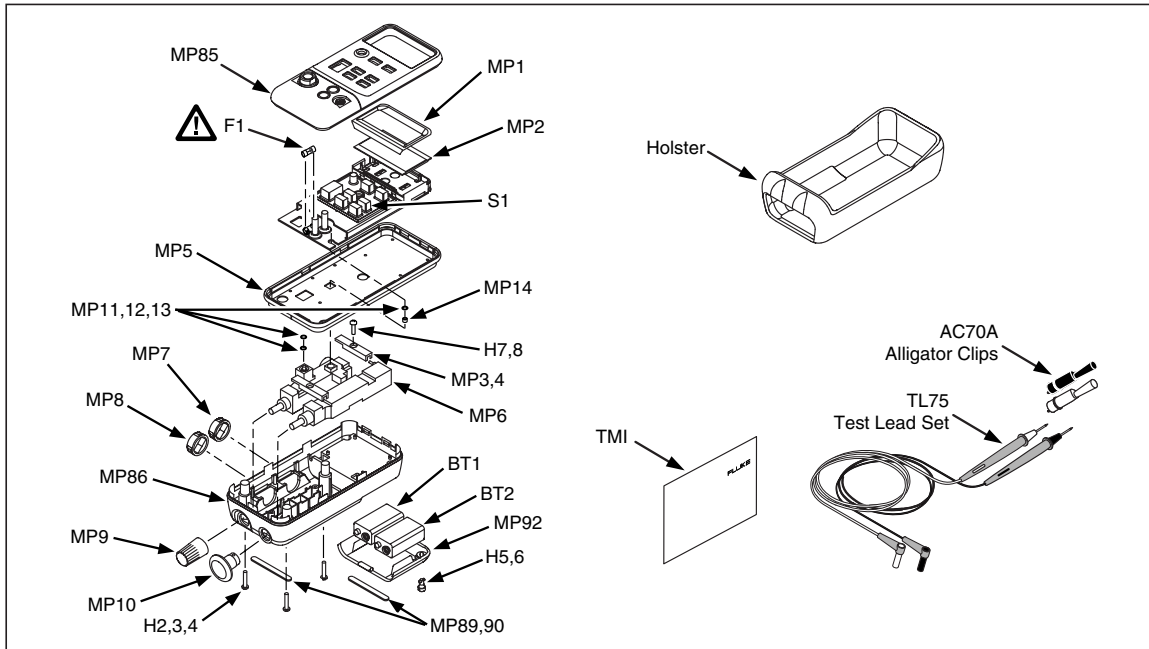

Figure 7. Exploded View (718 shown)
Table 56 lists the replaceable parts and accessories for the 71X Calibrators. See Figure 7 for an exploded view of the 718 Calibrator. Fluke repair is recommended for the 718Ex and no 718Ex replacement parts are listed in Table 55.
*Not all parts listed in Table 55 are shown in Figure 7.*